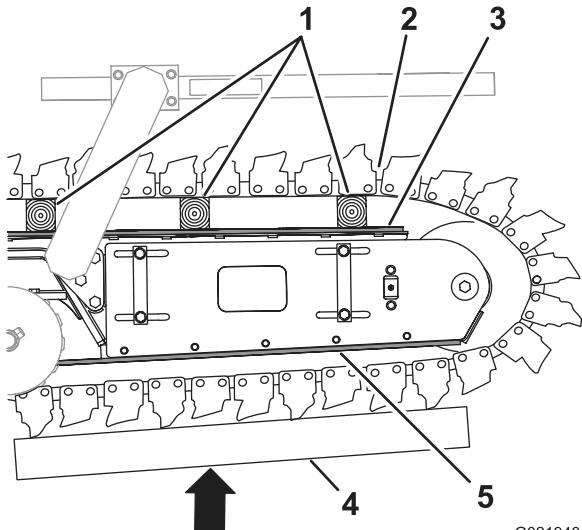

Figure 38
2. Lift the chain at the top of the boom, and install blocks between the chain and the boom (Figure 38).